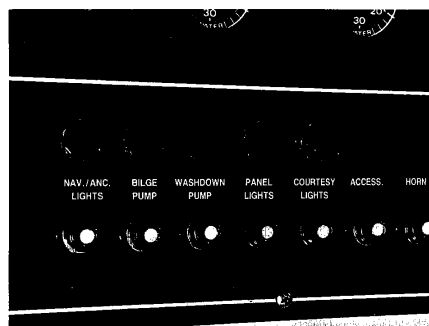

Figure 15
6. Test all switches on the accessory panel. See figure 15. Make sure the switches activate the equipment they control, and all equipment is in good operating condition.